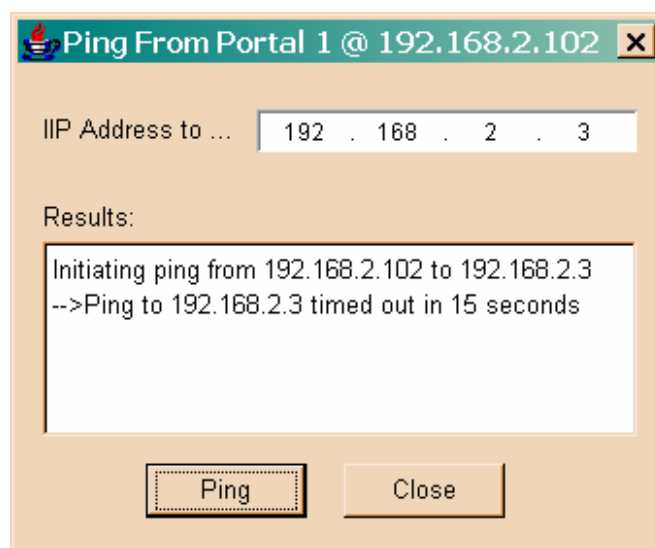

Figure 7-1. Pinging from a Network Portal
1. In the **Logical Resources** tab, expand **Network Entities**, **LAG Resources**, and the LAG that controls the desired network portal by clicking the plus sign (+) to the left of the title. Then right-click the desired network portal and click **Ping From**. A dialog box similar to the one in Figure 7-1 appears.